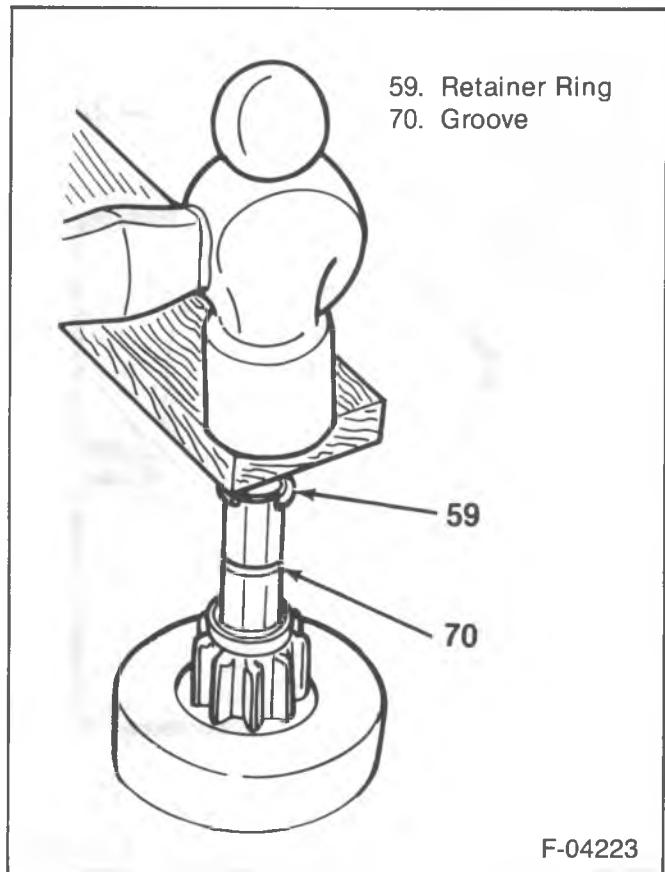

Figure 16—Forcing the Retainer Ring on the Shaft
4. Drive assembly (32) on the armature shaft.
5. Stop collar (39) on the shaft with the cupped end away from the pinion gear.
6. Retainer ring (37) on the shaft (figure 16).